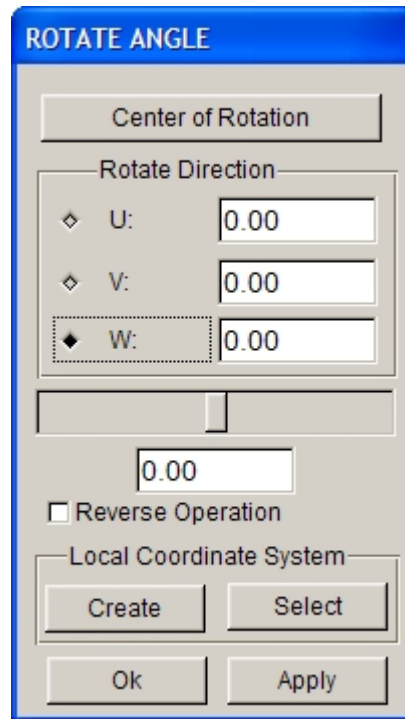

Figure 6.2.8 Rotate Binder dialog box
1. Click on the ROTATE BINDER button to display a dialog box as illustrated in Figure 6.2.8. By default, the center of binder is set as the center of rotation with U, V, W axes parallel to X, Y, Z axes of global coordinate system, respectively. The user can click CREATE button to define the local coordinate system. The user can define the center of rotation by click on the CENTER OF ROTATION button, following by picking a location using mouse cursor.
3. The user is given an option to rotate the binder by moving the SLIDER bar to either left or right. Moving the slider to the left will rotate the binder in clockwise direction, and vice versa. While moving the slider, the user can observe the dynamic view of binder from the display area. The amount of rotation angle is recorded in the box right below the SLIDER bar as illustrated in Figure 6.2.8.